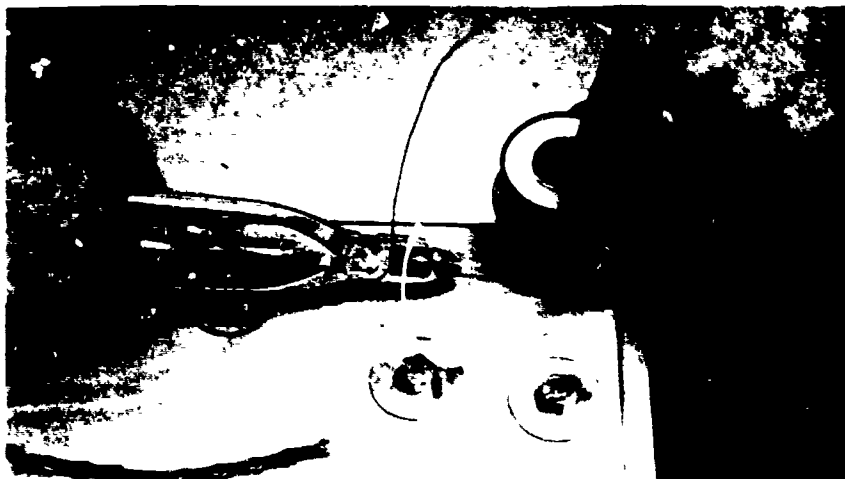

Figure 10. Cutting Wire with Safetywiring Pliers.
C. Refer to figures 10 thru 22 and safetywire the three bolt heads by performing the following steps.
2. Cut a piece of safetywire approximately $3 \frac{1}{2}$ times the length of the distance between the three bolt heads. See figure 10. DO NOT EXCEED 24 INCHES. TO 1-1A-8 limits the length of wire to 24 inches when wiring in series.